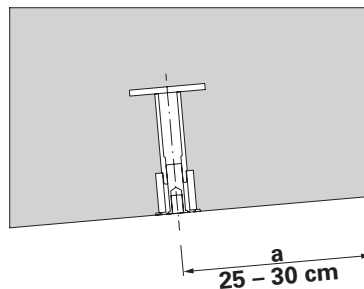

Fig. A3.03
- Maintain the selected dimension "b" over the entire length of the bridge. (Fig. A3.03)
Note: edge distance "a" and distance to sides "b1" and "b2". (Fig. A3.03 + Tab. A3.01)
2. Push Cone FRC Ø 32/52 (11) over the thread of the anchor positioning stud.
3. Screw Anchor Sleeve M24 (9) onto the Anchor Positioning Stud M24 as far as it will go. (Fig. A3.03)
4. Secure the Anchor Sleeve M24 (9) in the reinforcement using tie wire.